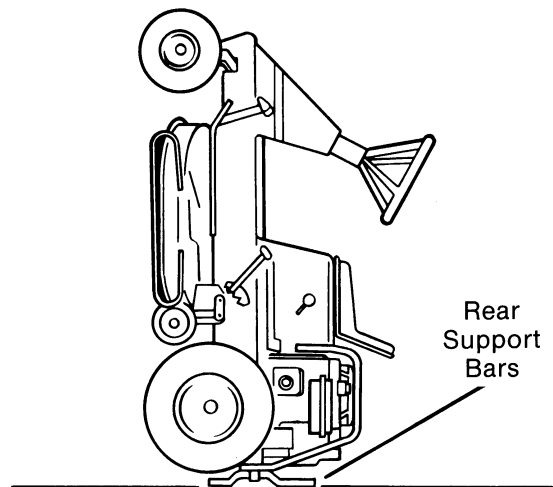

FIG. 6
- G. Raise front of rider up and stand on rear support bars. (Fig. 6)